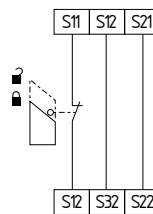

Fig. 11
**Single-channel guard door monitoring circuit with interlocking devices to ISO 14119 (Fig. 11)**